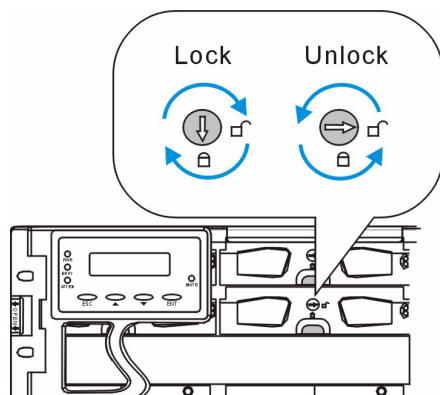

Fig. 6.9 Drive Tray Key-Lock Rotation
3. Remove the drive tray. To remove the drive tray from the enclosure, the key-lock must be unlocked. (See *Figure 6.9*) To do this, turn the key-lock on the front of the drive tray until the groove on its face is in a horizontal orientation.